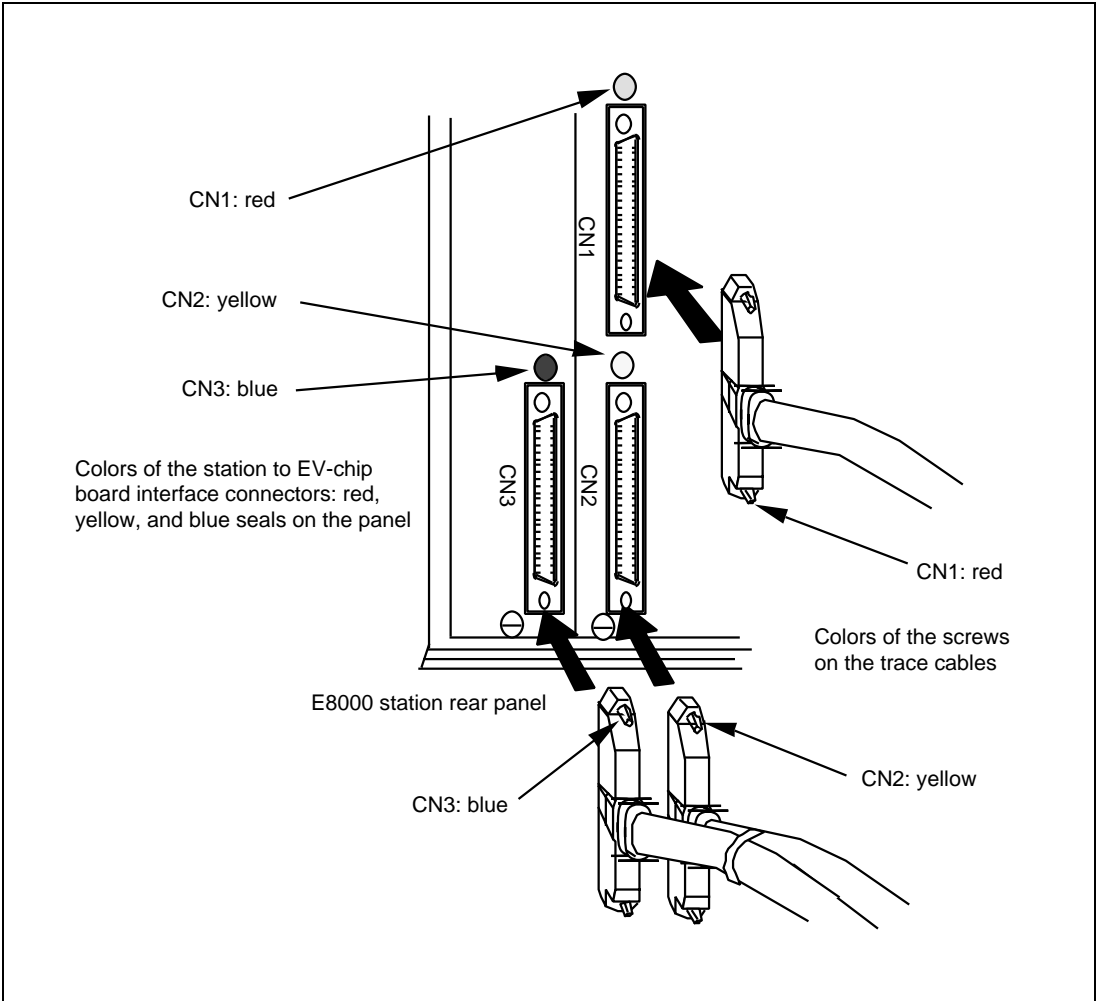

Figure 3.3 Connecting Trace Cables to the E8000 Station
3. Connect the trace cables into the station to EV-chip board interface connectors (CN1, CN2, and CN3) on the E8000 station's rear panel. Confirm that the shape of the trace-cable plug matches that of the station to EV-chip board interface connector before connecting. Also note which trace cable is connected to which E8000-station connector so that the other end of the trace cable is connected to the matching connector number on the EV-chip board. After the connection is completed, alternately tighten the screws on both sides of the trace cable to prevent the upper or lower side of the trace cable from lifting off the connector. Figure 3.3 shows how to correctly connect the trace cables to the E8000 station connectors.